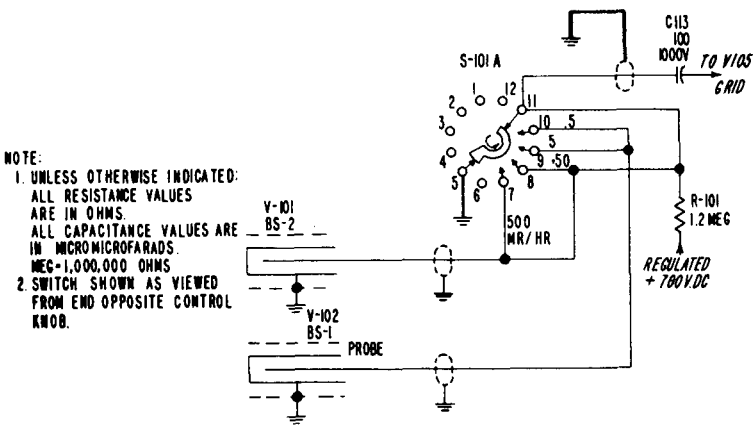

Figure 2-3. **Detector** Circuit
a. DETECTOR CIRCUIT. (See figure 2-3. )—The detector circuit consists of G-M tubes **V101** and **V102**, anode load resistor **R101**, coupling capacitors C1 13, and section **S101A** of range switch **S101**.